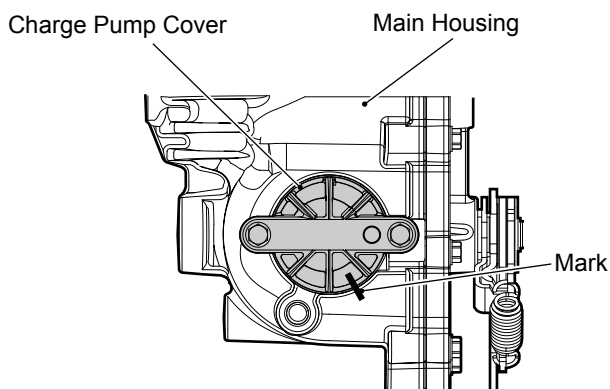

Figure 16, Charge Pump Cover Orientation
Refer to Figures 16, 17
1. Mark the orientation of the charge pump cover relative to the main housing, prior to removal. Refer to figure 16.
2. Remove the hex head screws (134), charge pump cover, gerotor assembly, and the O-ring (132). Remove the connecting tubes (130) at this point – *only if the center section will be removed*. A pick type tool can be used to remove the connection tubes.